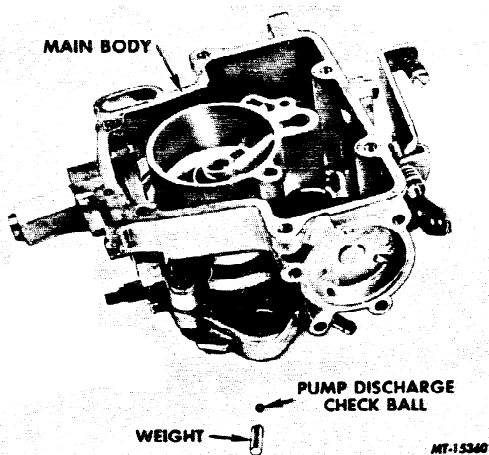
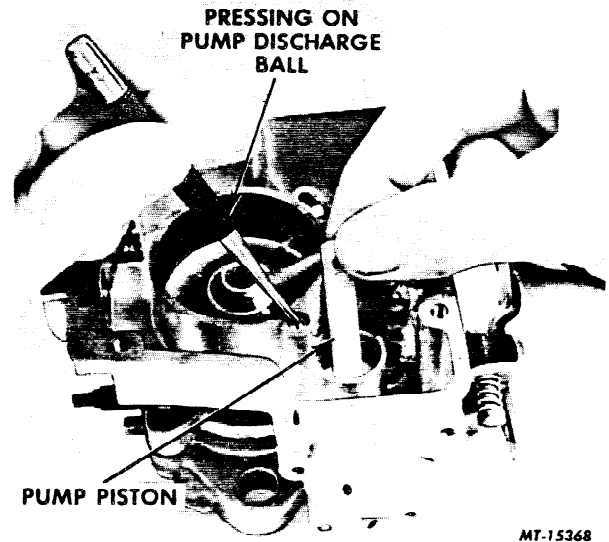
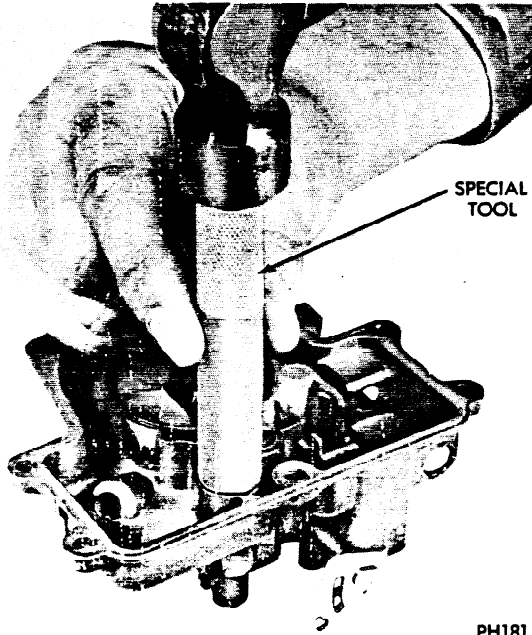

FIG. 24 Remove or Install the Pump Discharge Ball and Weight
FIG. 32 Testing the Accelerator Pump System
FIG. 31 Staking the Vacuum Piston
1. Turn the carburetor body upside down and remove the pump discharge ball and weight (Figure 24). Save the old ball in case the seat needs staking (Figure 32).
Except for the following vacuum piston staking operation (Figure 31), and testing the pump discharge valve (Figure 32), reassembly is the reverse of disassembly. Follow Figures No. 29 back to No. 1.
Test the pump discharge valve prior to assembly by filling the pump cylinder with clean fuel. Hold the pump discharge ball and weight down with a small punch or drift and operate the pump plunger by hand. If the valve and seat are leaking fuel will rise around the valve weight and spill over (Figure 32).